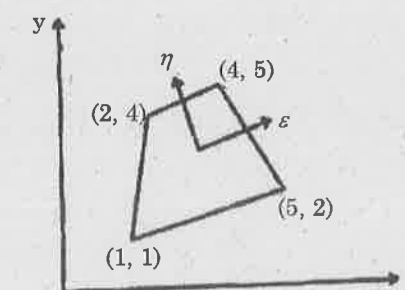

Fig. 4
15. (a) For the element shown in Fig. 4, determine the Jacobian matrix.